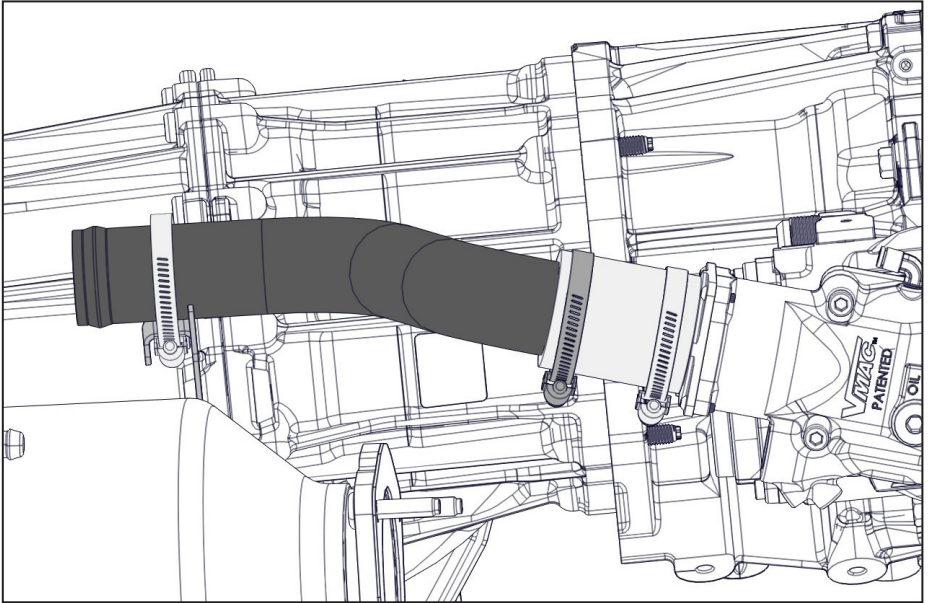

Figure 20 — Install compressor side metal intake tube
- Install the compressor side metal intake tube and secure the intake tube to the support bracket using a gear clamp (Figure 20).